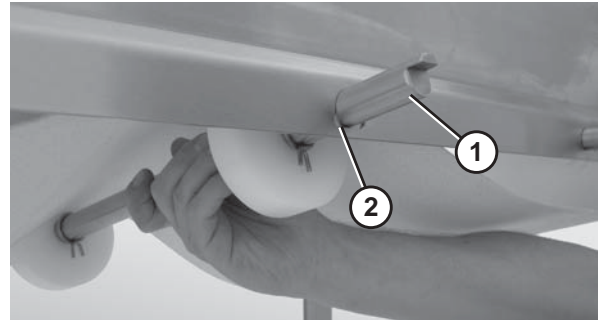

Figure 48
5. Remove the belt returns by pushing up on the return shaft (Figure 48, item 1) and sliding it through the large hole (Figure 48, item 2) in the frame.
6. Lower the opposite end of the return shaft (Figure 48, item 1) and slide it out of the frame.